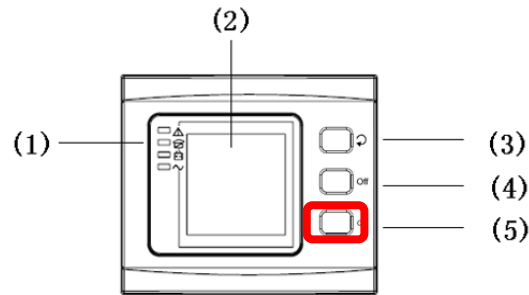

Fig. 3-5 Cold Start
- Press ON button for Cold Start (Fig. 3-5).